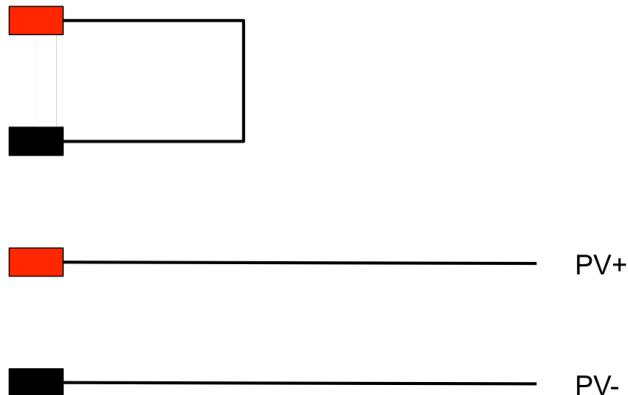

Figure 9-6: Connections with 2nd Relay ON
The binding post connections when the 2nd relay is active (ON) are shown in Figure 9-6 below.